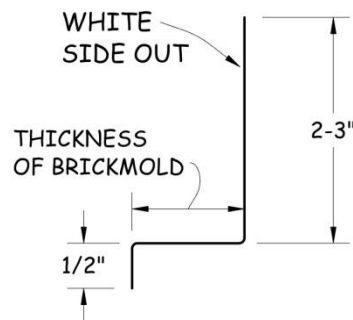

Figure 9-3. Shed Door Drip Cap.
2. Create (or use pre-made, if available) and install an aluminum drip cap over the top of the door casing. Cut the flashing 1" longer than the top brickmold. Install it with 1/2" extension beyond each end of the brickmold. See Figure 9-3.